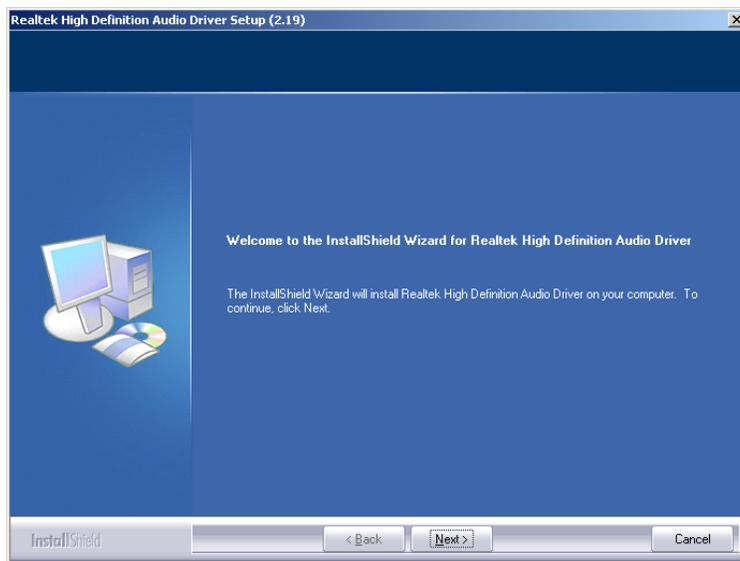

Figure 6-9: InstallShield Wizard Welcome Screen
Step 5: Once initialized, the InstallShield Wizard welcome screen appears (Figure 6-9).